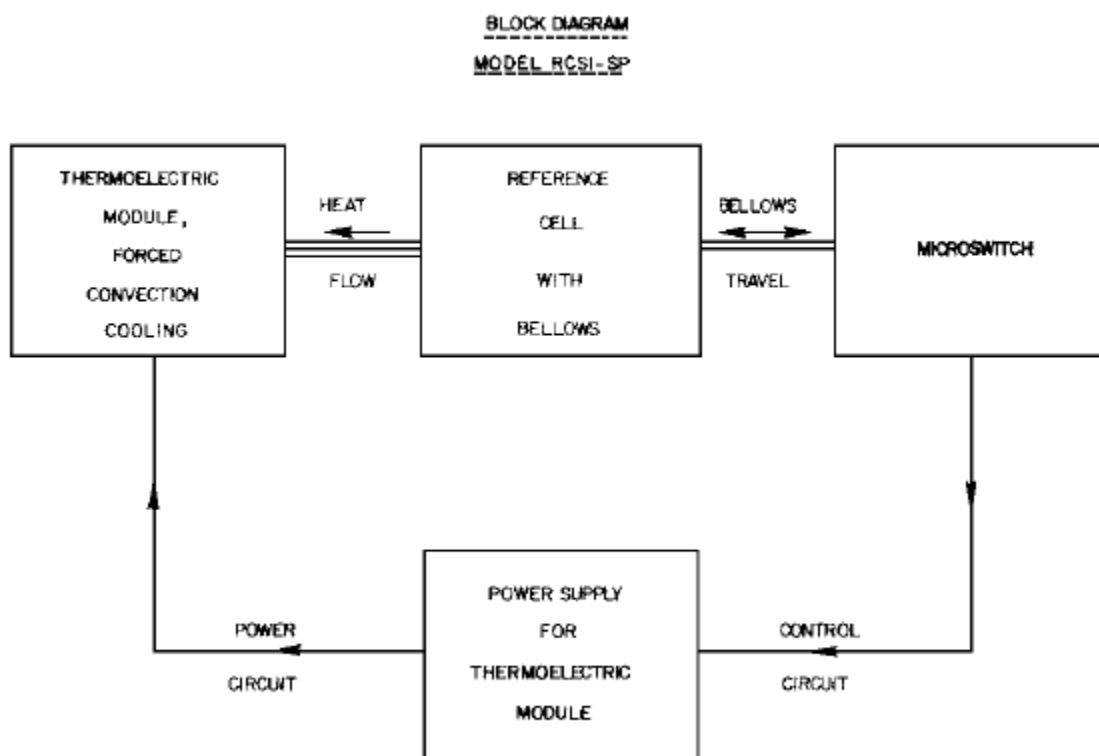

Figure 15. Block diagram model RCS1-SP.
d. INSTRUMENT BLOCK DIAGRAM (See figure 15).